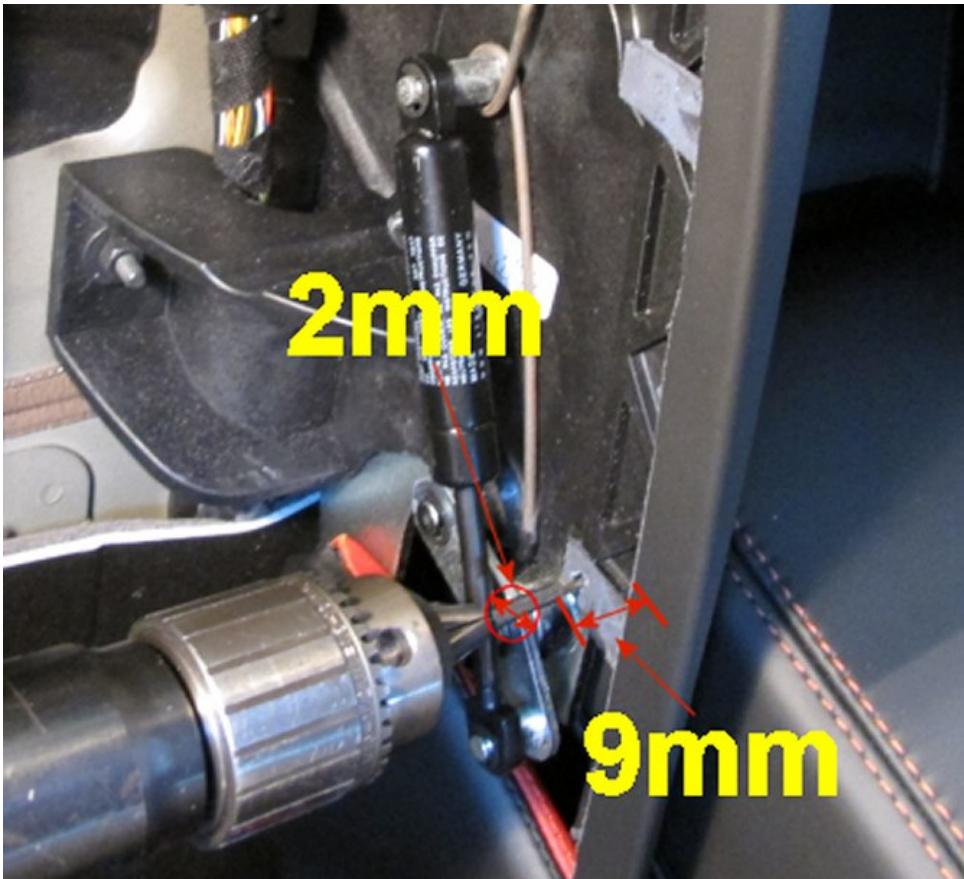

Figure 3
- Drill a hole through the lower securing clip and into the ski hatch aperture surround. The hole should be 2mm diameter and no more than 9mm deep in total, do not exceed this depth (see Figure 3)